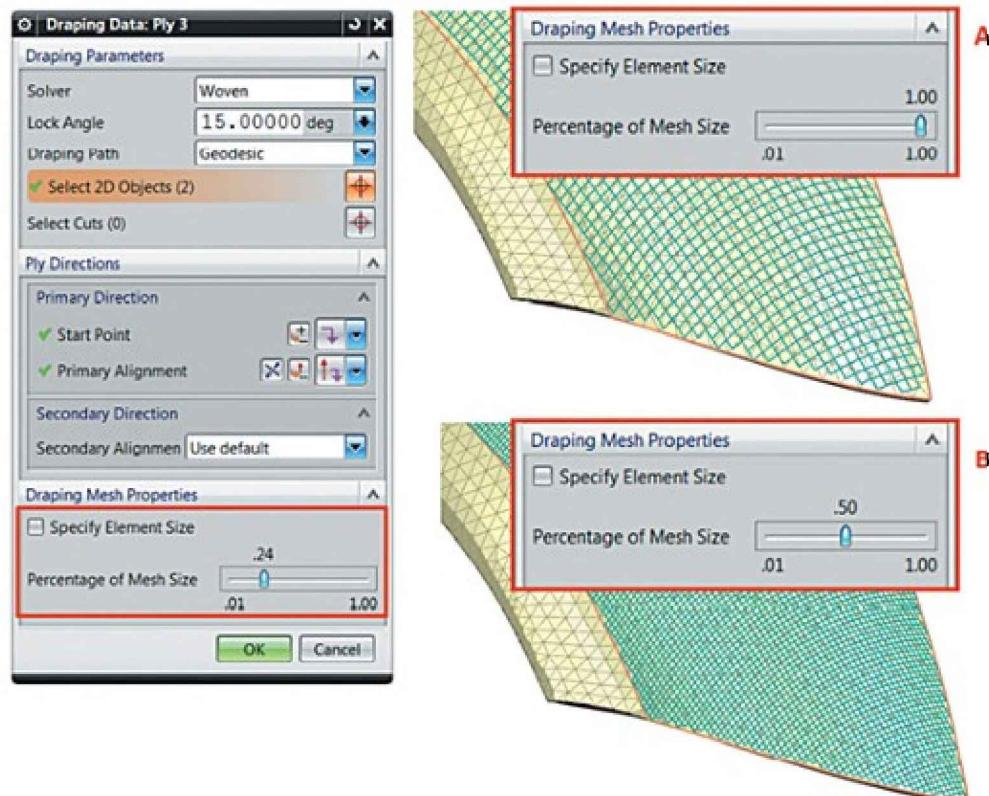

Figure 6.14. Draping a woven fabric
Figure 6.14 shows the draping of a woven fabric with coarse mesh (A) and medium mesh (B).